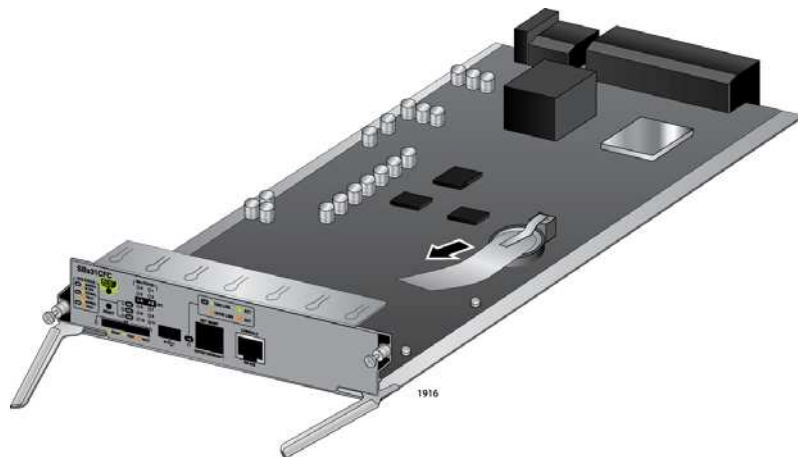

Figure 69. Removing the Battery Insulator
5. Remove the battery insulator tab on the controller card by sliding it out from between the battery and battery clip, as shown in Figure 69.